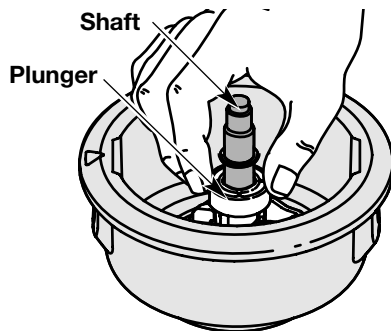

Fig. 18
5. Clean the shaft and the inner surface of the outer spool. To clean the shaft underneath the plunger, press down on the plunger (Fig. 18). Remove any dirt or debris from the shaft.